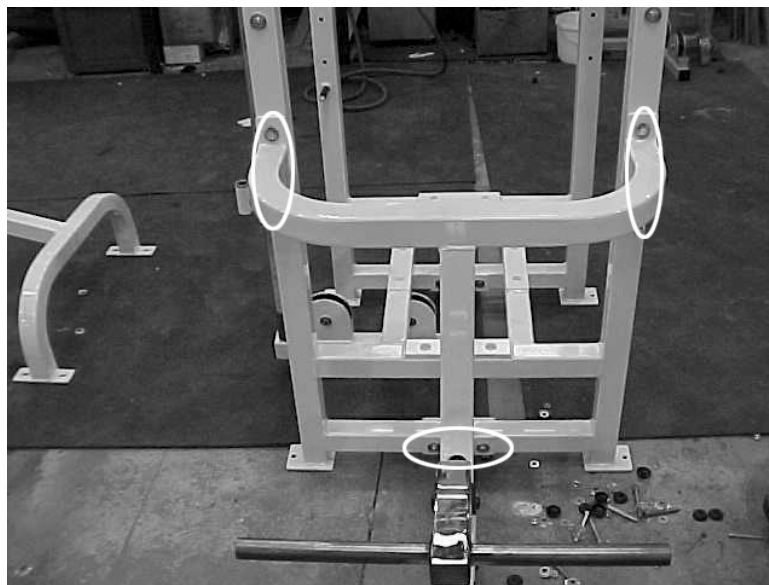

**Figure 13. Mount adjustable pulley bracket.**
- Mount adjustable pulley brackets. When shipped, the adjustable pulley brackets look like the ones shown in Figure 13. The bolts need to be removed and the bracket needs to be positioned so that the top of the bracket is in the top hole as shown by the arrow in Figure 13. Use a 3" bolt with flat washers, end cap washers and end caps. When you remove the bolts, leave the pulley bolt and pulley out since you will need to thread the cable with the pulley removed.